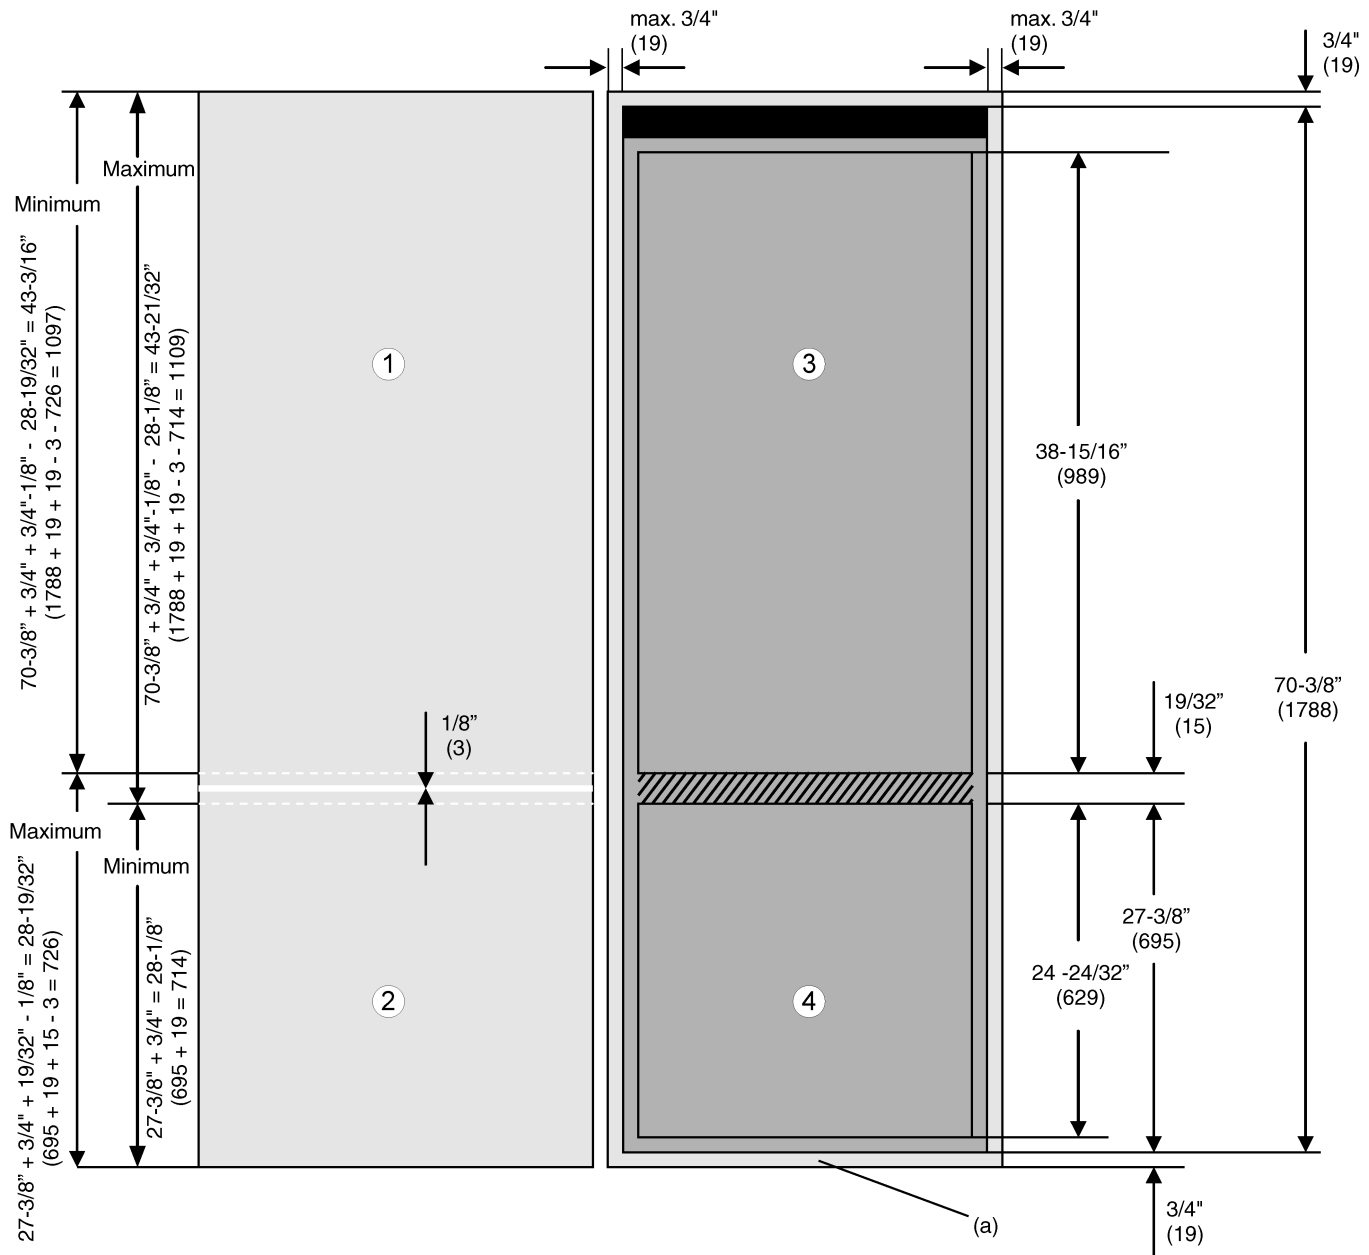

Fig. 3
- In order to cover the front of the floor plate Fig. 3 (a): extend the plate height to 27-3/8 in. + 3/4 in. = 28-1/8 in. (695 mm + 19 mm = 714 mm).
If no cabinet doors have yet been fitted the gap between the freezer section door Fig. 3 (4) and the fridge section door Fig. 3 (3) is 19/32 in. (15 mm) After the cabinet doors have been fitted the gap between the two doors Fig. 3 (1,2) is about 1/8 in. (3 mm) and must be inside the hatched area.